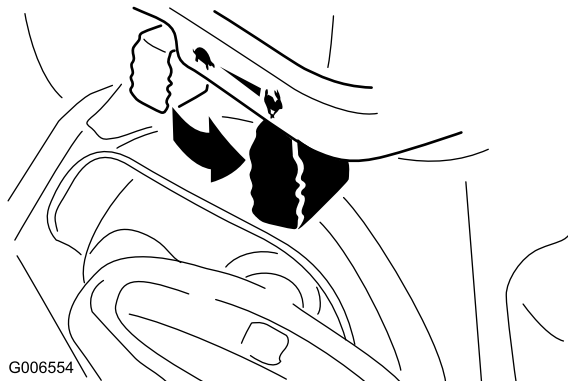

Figure 25
6. Move the throttle to the Fast position (Figure 25).